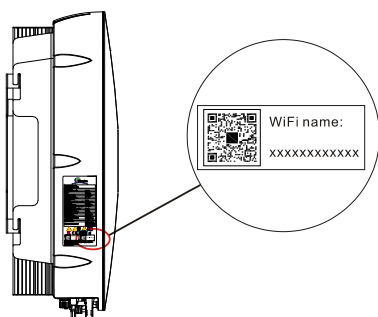

Figure 3-1
1. Find Wi-Fi name from the label on the inverters, and connect to Wi-Fi by initial password “gsstes123456”. (Figure 3-1)